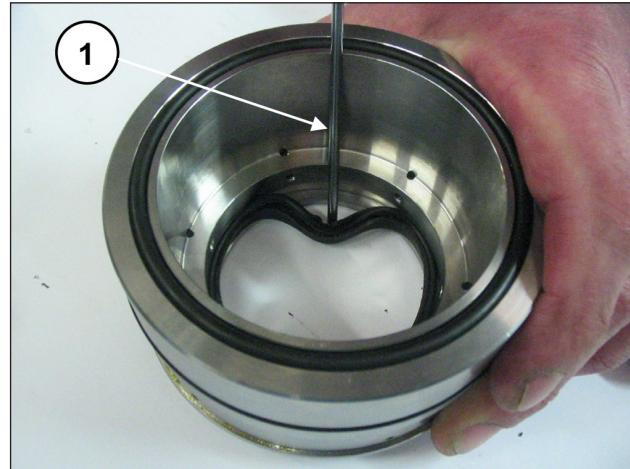

Fig. 195
To remove the low pressure seal, use a thickness gauge or another tool which will not damage the seal support housing (pos. ①, Fig. 195).